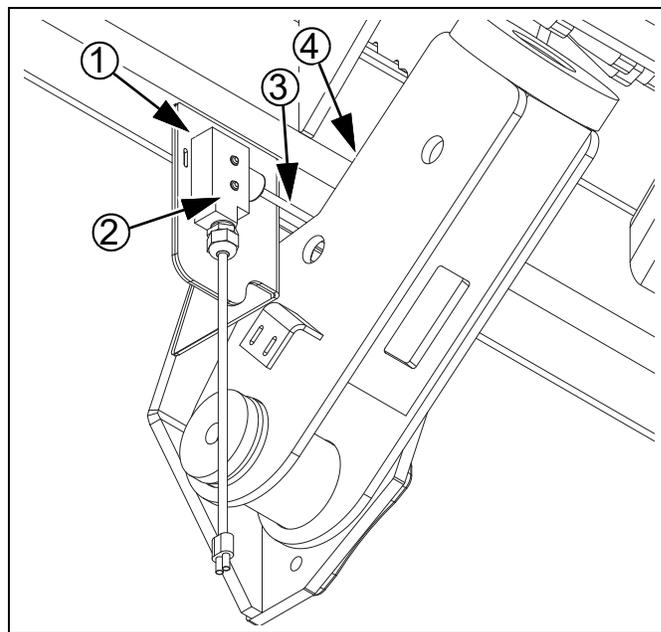

Figure 38
**Refer to Figure 38 (which, for clarity, depicts the switch region without openers or gauge wheel)**